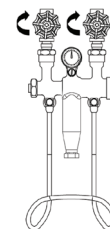

Fig. 3
- First** Place valve ring, including O-ring, on seating tool as shown in Fig. 3 and drive into valve body as far as it will go keeping sealer tool as straight as possible.